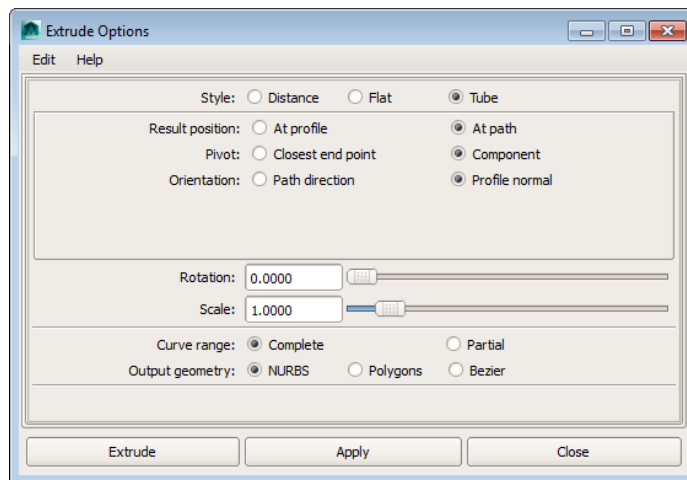

**Figure 3-72** A circle created in the front viewport
3. Choose **Create > NURBS Primitives > Circle** from the menubar and click in the front viewport; a circle is created in the viewport. Make sure the circle is selected in the viewport. In the **Channel Box / Layer Editor**, expand the **makeNurbCircle3** area in the **INPUTS** node and enter **0.4** in the **Radius** edit box and **90** in the **Rotate X** edit box; the circle is rotated in the front viewport, as shown in Figure 3-72.